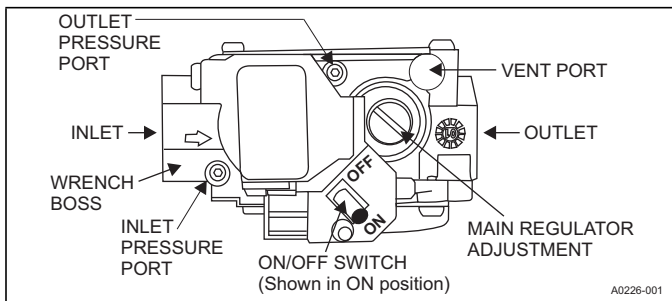

FIGURE 34: Gas Valve
Inlet and manifold gas pressure can be measured by connecting the U-tube manometer to the gas valve with a piece of tubing. Follow the appropriate section in the instructions below. See Figure 34 for the locations of the pressure ports on the gas valve.
Connect the positive side of the manometer to the IN P Tap on the gas valve. Do not connect any tubing to the negative side of the manometer, as it will reference atmospheric pressure. See Figures 34 and 35 for connection details.
Connect the positive side of the manometer to the OUT P Tap on the gas valve. Do not connect any tubing to the negative side of the manometer, as it will reference atmospheric pressure. See Figures 34 and 35 for connection details.
1. See Figure 34 for location of pressure regulator adjustment cap and adjustment screws on main gas valve.